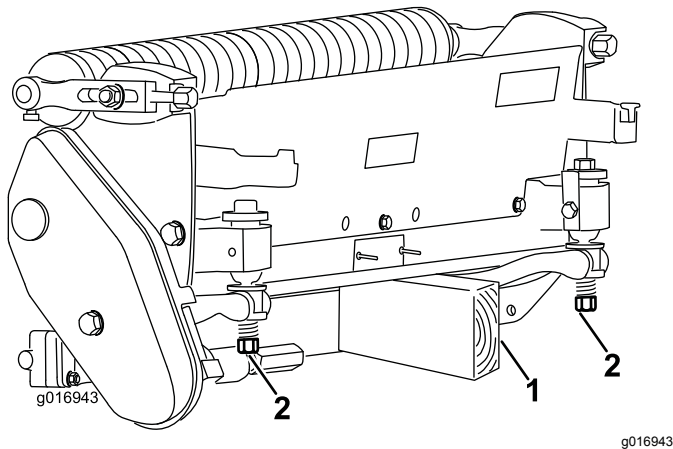

Figure 8
Whenever you need to tip the cutting unit to expose the bedknife/reel, prop up the rear of the cutting unit to ensure that the nuts on the back end of the bedbar adjusting screws are not resting on the work surface (Figure 8).
**Note:** Ensure that the nuts on the back of the bedbar adjusting screws are not resting on the work surface (Figure 8).